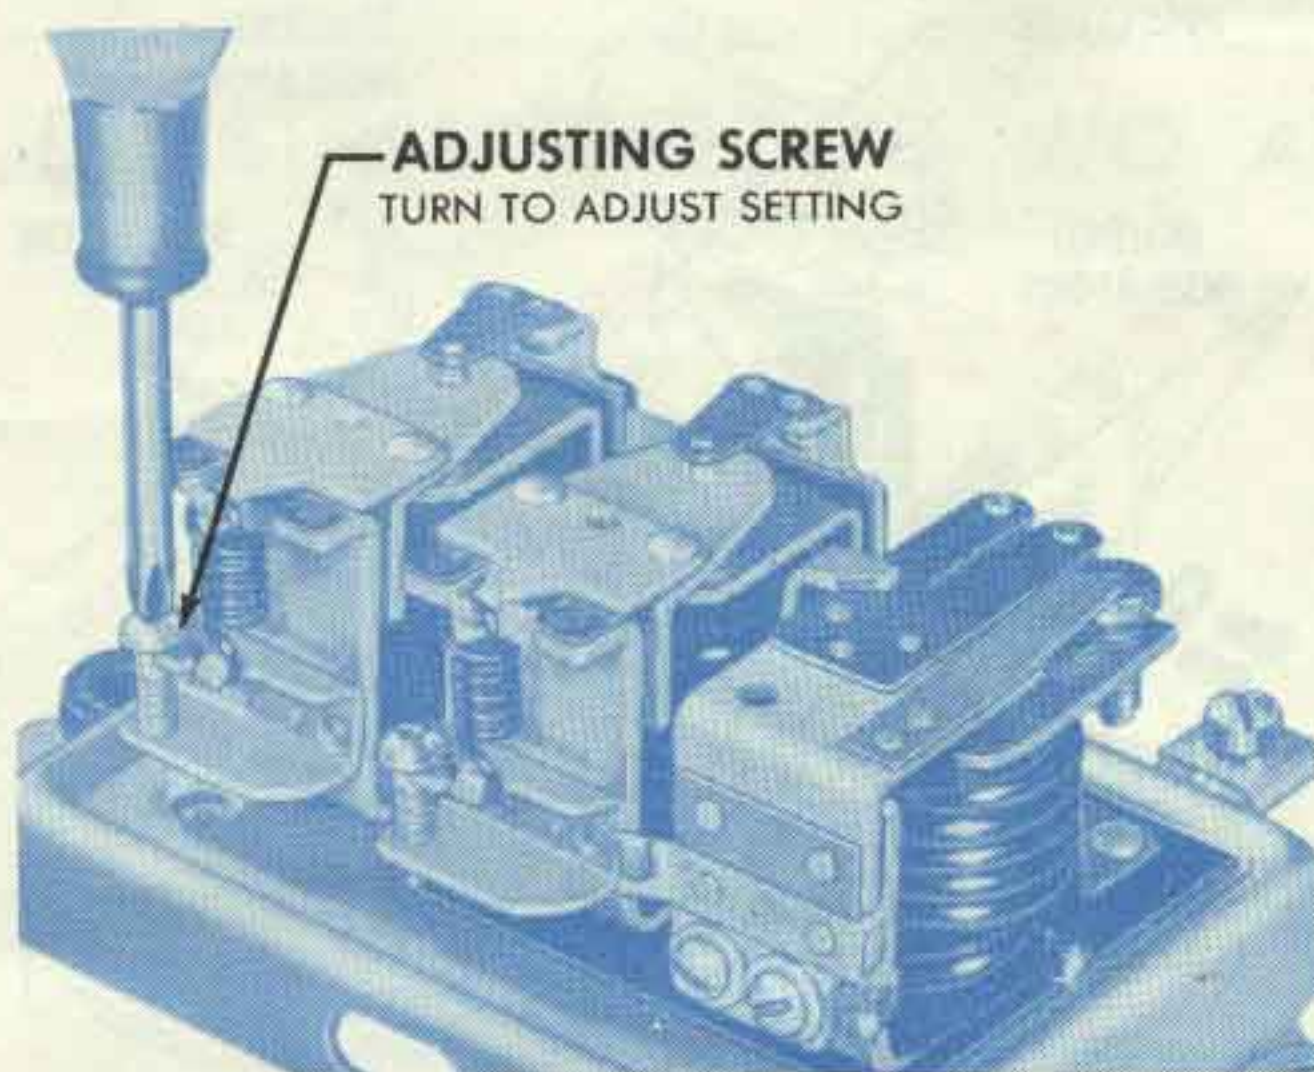
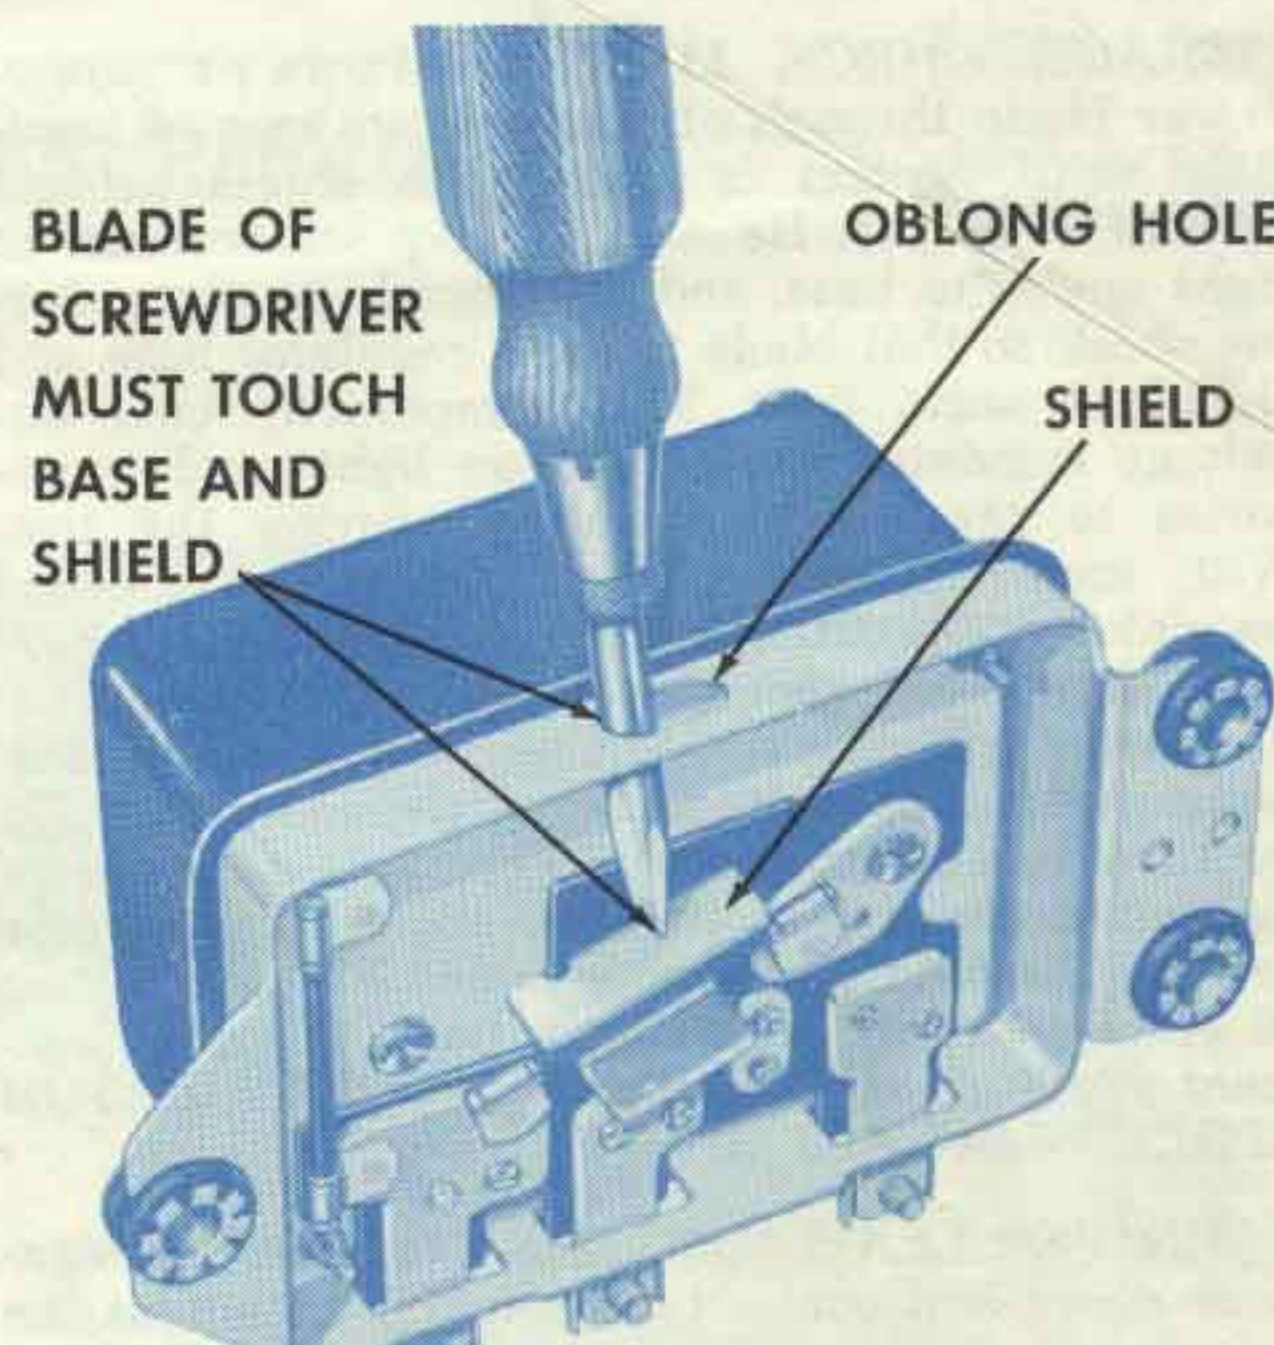
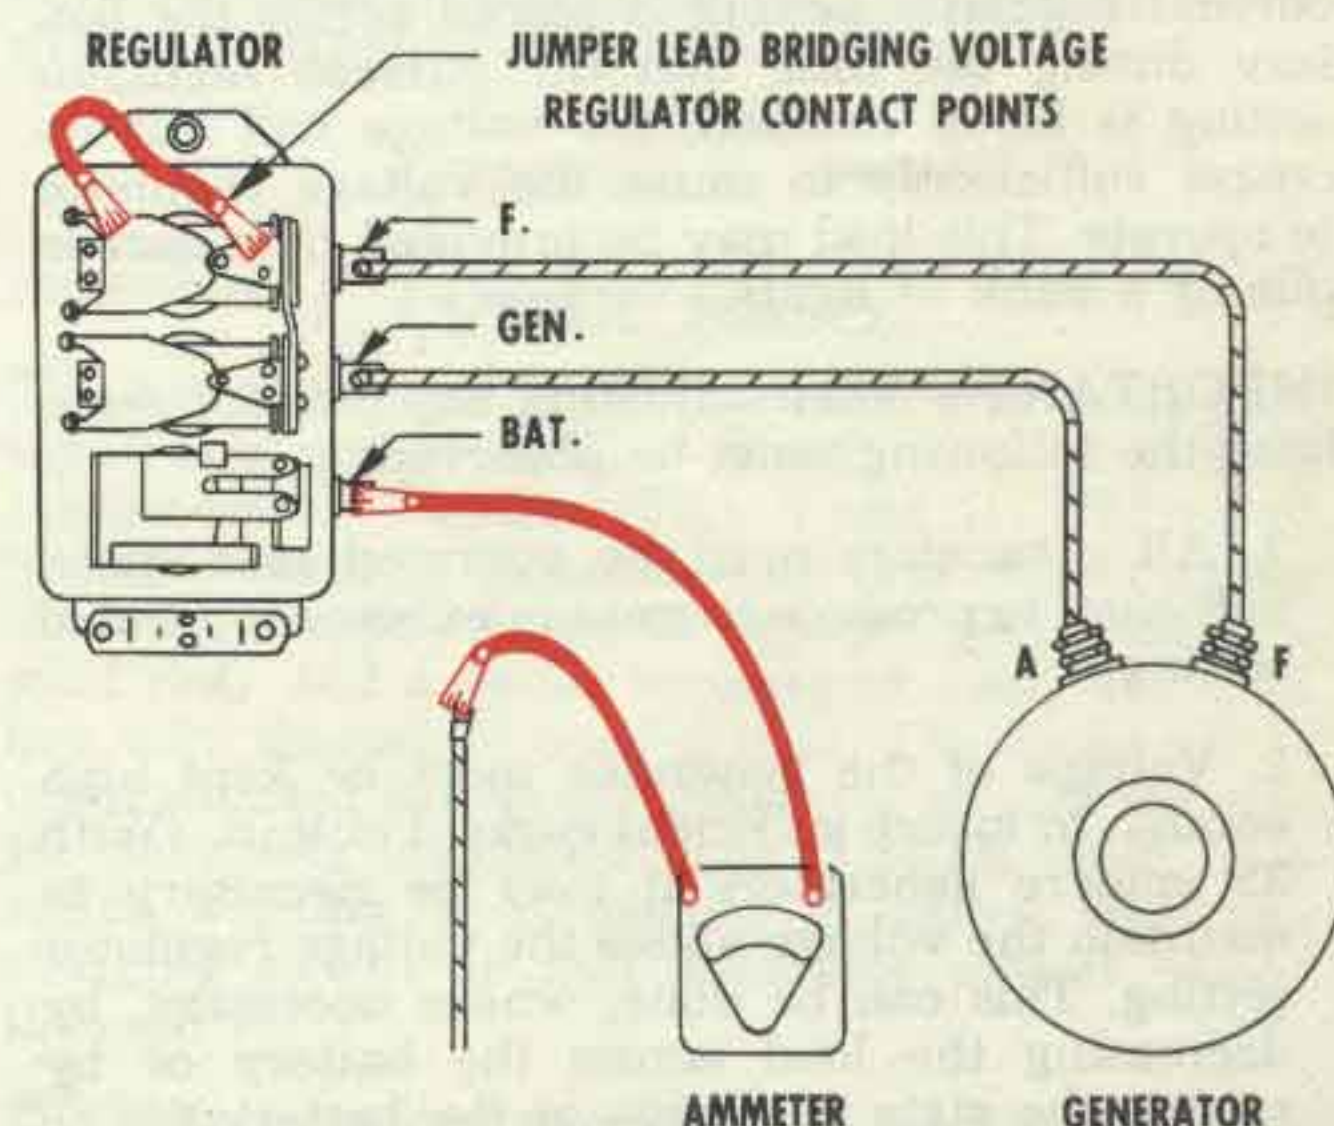

Figure 13—Adjusting voltage regulator setting.
Figure 14—Quick method for cutting out voltage regulator in order to check current regulator setting.
Figure 15—Ammeter and jumper lead connections for checking current regulator setting by the jumper lead method. Ammeter leads and jumper lead shown in red.
To adjust voltage setting, turn adjusting screw (Fig. 13). Turn screw clockwise to increase voltage setting and counterclockwise to decrease voltage setting.
1. QUICK CHECK METHOD—Insert screwdriver blade through oblong hole in base of regulator until contact is made with shield around resistor (Fig. 14). Be sure to keep screwdriver at right angles to base, and hold firmly in place during check so that blade touches regulator base and shield at same time. This temporarily cuts out voltage regulator unit. Turn on lights and accessories to prevent high voltage during the test. With ammeter connected as in Figure 15 and regulator at operating temperature, operate generator at specified speed, and note current setting. If necessary to adjust, remove cover and adjust in same manner as voltage regulator unit (Fig. 13) by turning adjusting screw clockwise to increase current setting or counterclockwise to decrease setting. See CAUTION note under Voltage Setting of Voltage Regulator. If unit is badly out of adjustment readjust as explained under REGULATOR SPRING REPLACEMENT.
2. JUMPER LEAD METHOD—Remove the regulator cover and connect a jumper lead across the voltage regulator contact points (Fig. 15). Turn on lights and accessories to prevent high voltage during the test. With generator operating at specified speed and with regulator at operating temperature, note the current setting.